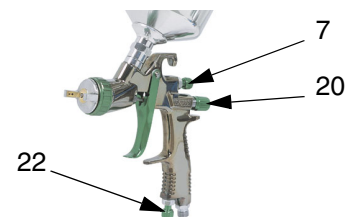

FIG. 3
2. FIG. 3. For maximum fluid flow and to prevent premature fluid nozzle wear, turn fluid adjustment knob (20) left until no trigger restriction is felt; trigger should be able to touch gun handle. Then turn knob out 1/2 turn more.